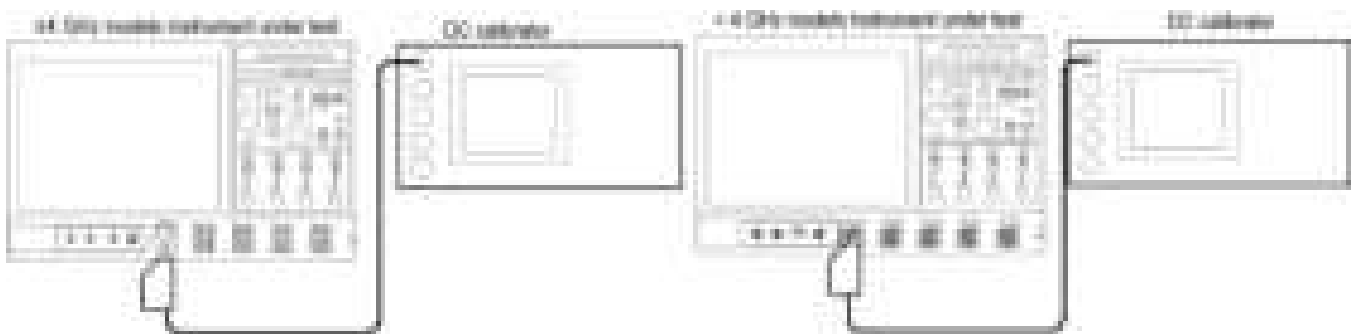

Figure 10: DC voltage accuracy test hookup,  $\leq 20$  GHz models
- Connect the output of a DC calibration generator. (See Figure 10: DC voltage accuracy test hookup,  $\leq 20$  GHz models.)